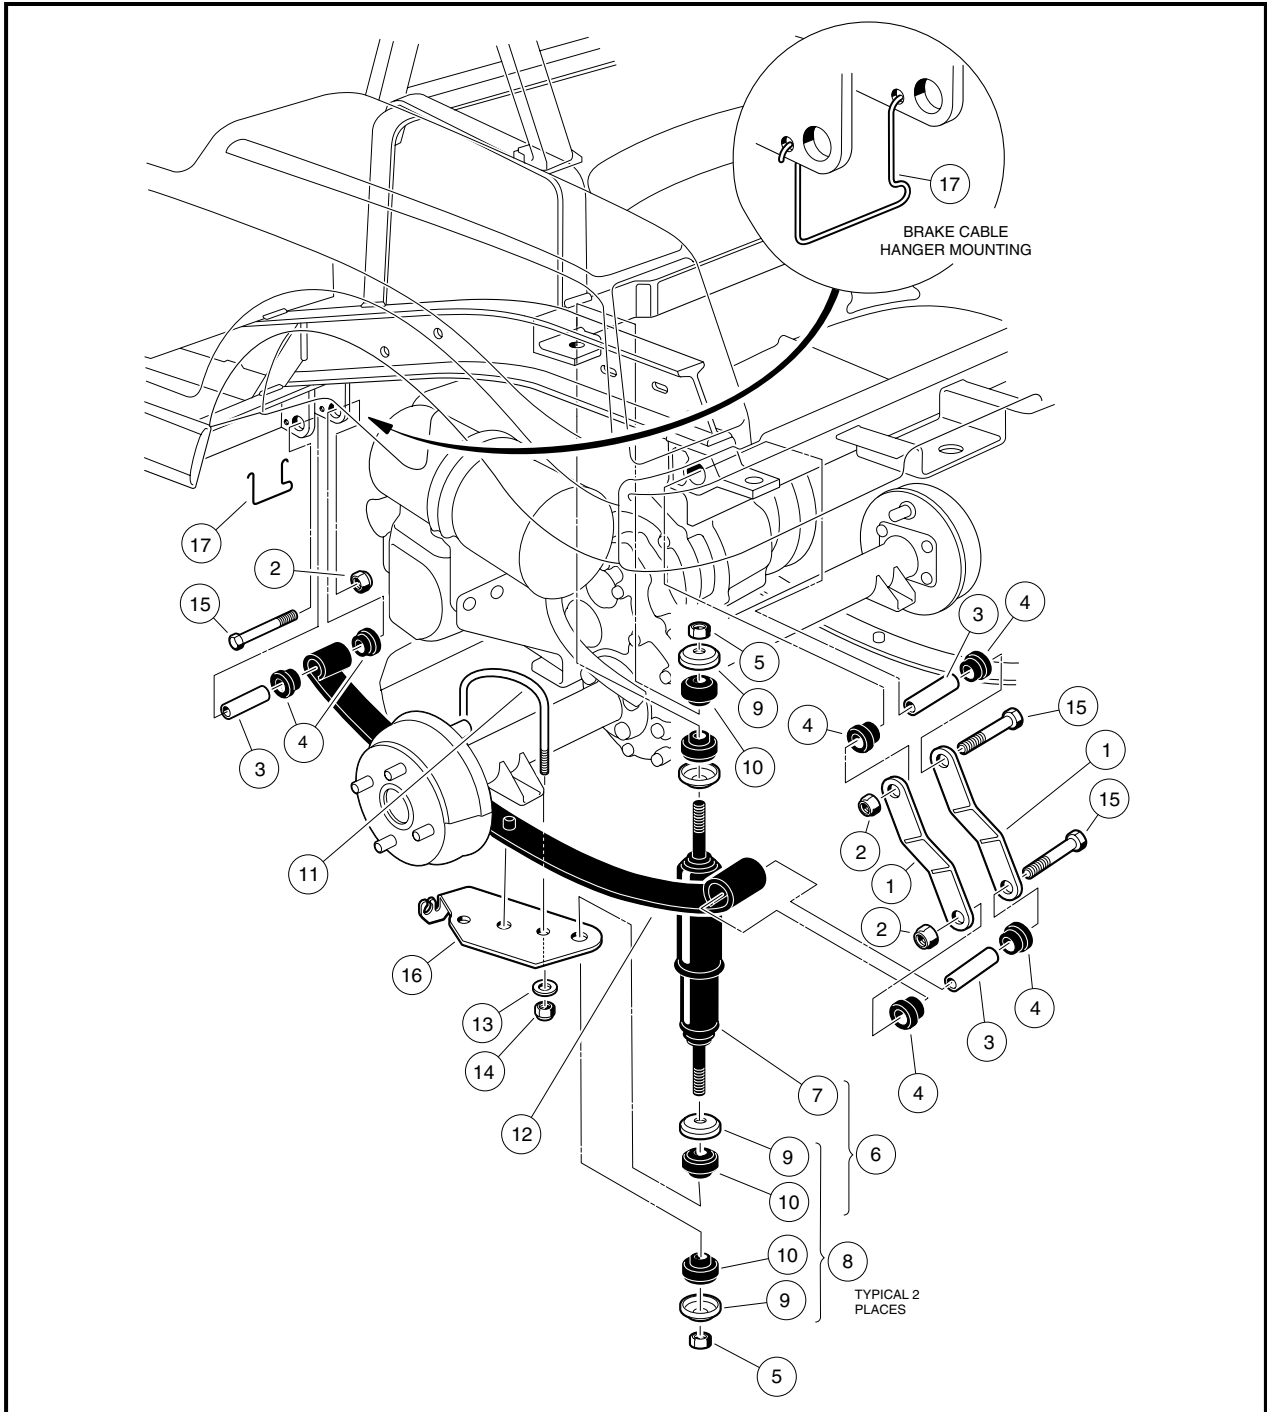
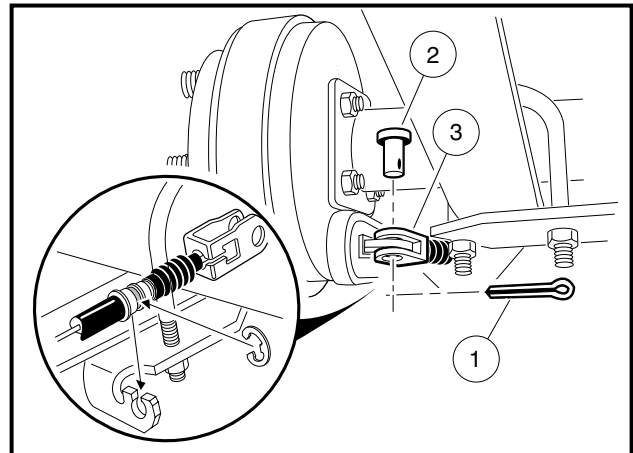

FIGURE 18-1
FIGURE 18-3
1. Check shock absorbers (7) for fluid leakage at the point where the shaft enters the shock absorber body. Replace leaking shock absorbers (Figure 18-1).
2. To remove a shock absorber, remove the nut (5), cup washer (9) and rubber bushing (10) from the stem at the top of the shock absorber (Figure 18-1).
3. Remove the nut (5), cup washer (9), and rubber bushing (10) from lower mounting stem (**Figure 18-1**).
4. Remove the cotter pin (1) and the clevis pin (2) at the brake lever and brake cable connection and pull the clevis (3) away from the lever (**Figure 18-3**). Detach the brake cable from the shock mount bracket (16) (**Figure 18-1**).
5. Remove the nut (5), cup washer (9), and rubber bushing (10) from the lower mounting stem of the shock absorber (**Figure 18-1**).
6. Remove the nuts (14), lock washers (13), and the U-bolt (11) securing the spring to the transaxle (**Figure 18-1**). Remove the shock mount bracket and the U-bolt.
7. Remove the bolt (15) and nut (2) attaching the rear spring to the shackle (1) (**Figure 18-1, Page 148**).
8. Remove the nut (2) and bolt (15) attaching the front of the spring to the vehicle frame (**Figure 18-1, Page 148**) and remove the spring.
9. Inspect the bushings (4) and spacers (3) in the spring eyes and replace them if they are worn or damaged (**Figure 18-1, Page 148**).